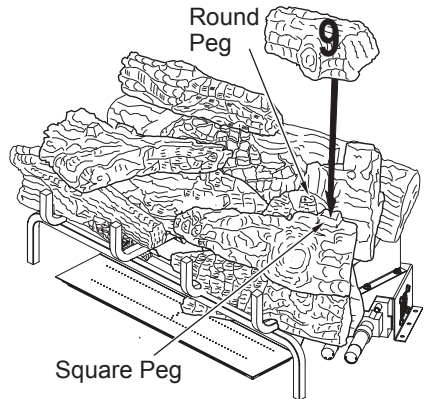

Figure 52 - Installing Log # 9
- Place the top right log (#9) on top of the right rear chunk log (#7) and front right mid log (#8) as shown in Figure 52. Match the round peg on the top of the right rear chunk log (#7) with the round hole on the bottom of the top right log (#9) and square peg on the top of the front right mid log (#8) with the square hole on the bottom of the top right log (#9).